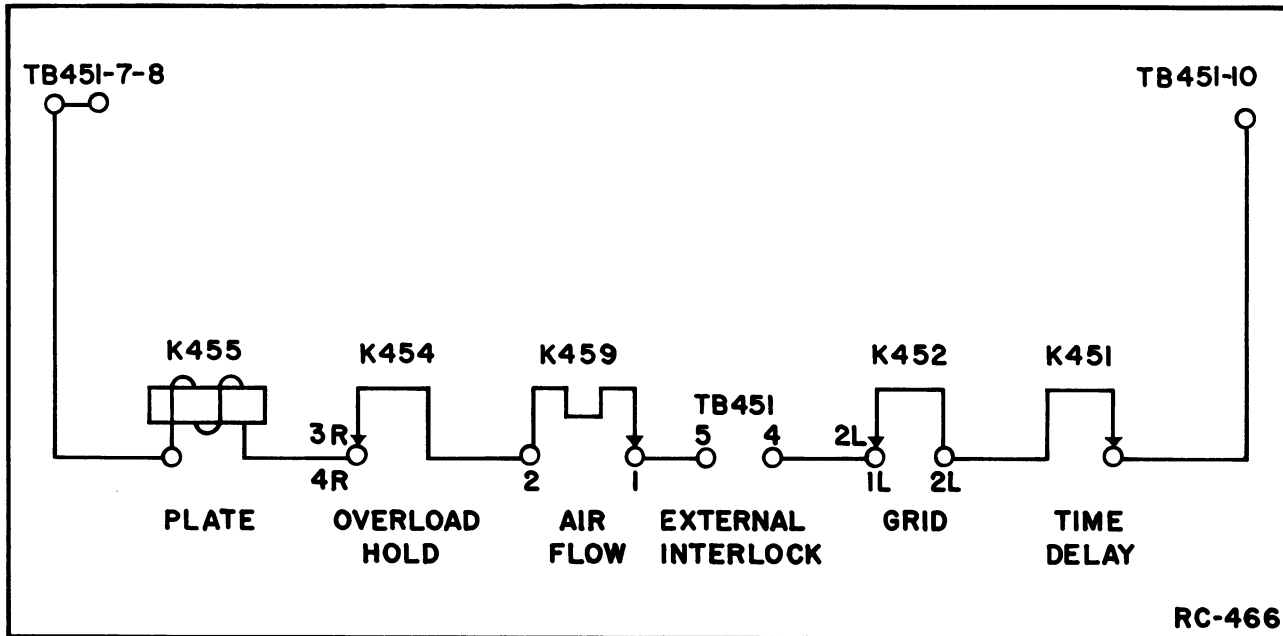

Figure 1 - Plate Relay String
The time delay relay K451, which is actuated by the 6-volt filament circuit, provides a 45-second time delay before closing a set of contacts in the primary circuit of the plate supply (see Figure 1). This delay allows time for sufficient filament warmup before the AC plate voltage is applied to the GL-866A rectifiers.
The grid current relay K452 is energized only when adequate current exists in the grid circuit. K452 is picking up, causes (1) the GRID current indicator lamp to light; (2) the filament voltage dropping resistor to be shorted out; (3) the PA screen to become un-grounded; (4) a set of contacts to close in series with the plate relay coil K455 (see Figure 1) and (5) the antenna relay to become energized.
The cabinet safety interlock switch S906 is mounted on the rear of the equipment cabinet and is connected to TB45I-4 and -5 on the Power Supply chassis. Opening the cabinet rear door opens S906 causing K455 to de-energize and open the primary of the plate supply (see Figure 1).
The air flow switch K459 (thermostat) and R452 are located in the air duct of the blower mounted on the Power Supply chassis. If the air fails and the thermostat temperature exceeds 200 degrees F because of the resistor proximity, K459-1 and -2 open, causing K455, the plate relay, to de-energize and open the primary of the plate supply (see Figure 1).
When energized, the overload hold relay K454 locks itself in by closing a set of normally open contacts. A set of normally closed contacts on the relay, open, de-energizing the plate relay K452 which opens the primary of the plate supply (see Figure 1).